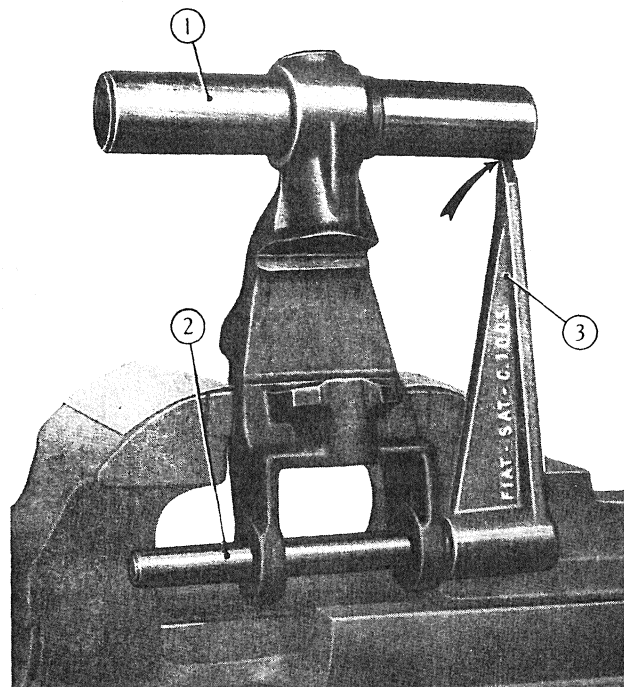

Fig. 269 - Checking parallelism of knuckle pillar axes with fixture C. 1003.
a) Place pin (1, fig. 269) in knuckle pillar upper hole and lower pin (2) with square (3) in lower holes.